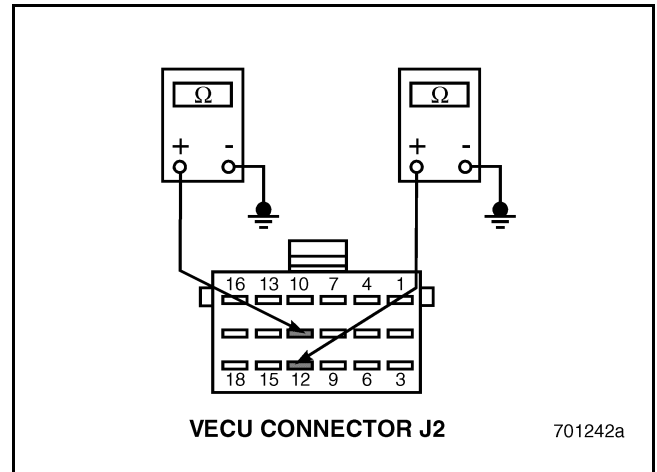

Figure 441
4. Check for continuity between VECU connector J2 pin 11 and a good ground and between J2 pin 12 and a good ground (see Figure 441).